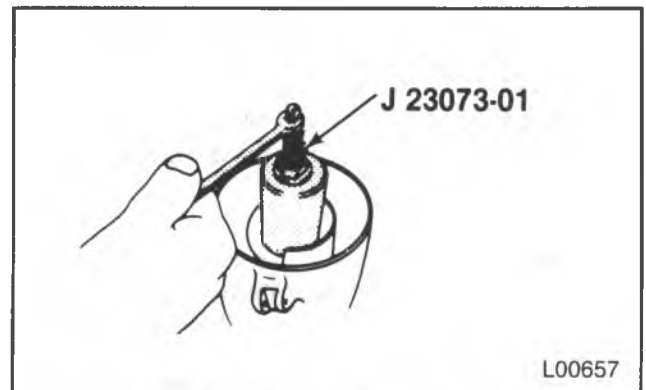
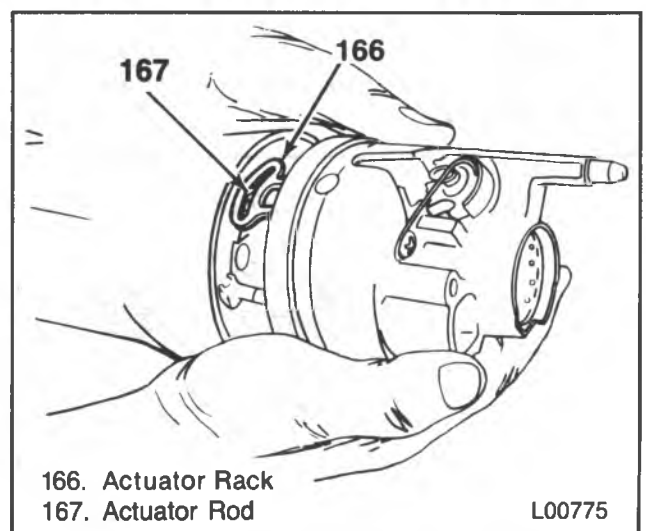

Figure 38 — Shift Tube Assembly Installation
Figure 39 — Bearing Housing Installation
12. Shift tube (194) into the lower end of the mast jacket (192).
- Place the nut on the threaded end of the tool and pull the shift tube (194) into the housing (figure 38).
13. Bearing support washer (180) and retaining ring (179). Pull the shift lever housing up far enough to compress the lock plate washer.
15. Screws (173) through the support and into the lock plate (181).
- Screws (173) to 6.8 N·m (60 in. lbs.).
- Align the lower bearing adapter (195) with the notches in the jacket (192).
16. Adapter (195) into the lower end of the jacket (192).
17. Lower bearing (196), bearing reinforcement (197) and retaining clip (198).
- Align the retaining clip (198) with the slots in the reinforcement (197), jacket (192) and adapter (195).
18. Centering spheres (169) and anti-lash spring (170) in the upper shaft (168).
19. Lower shaft (172) from the same side of the spheres that the spring ends protrude.
20. Steering shaft assembly into the shift tube (194) from the upper end. Carefully guide the shaft through the shift tube (194) and bearing.
21. Ignition switch actuator rod (167) through the shift lever housing and insert it in the slot in the bearing support.
- Extend the rack (166) downward from the bearing housing.
22. Bearing housing (159) over the steering shaft (168).
- Engage the rack (166) over the end of the actuator rod (167) (figure 39).
- With the release lever (163) installed, hold the lock shoes (152 and 153) in the disengaged position.
23. Bearing housing (159) over the steering shaft (168) until the pivot pin (156) holes line up.
24. Pivot pins (156).
- Place the bearing housing (159) in the full "up" position.
25. Tilt lever spring guide (147), spring (146) and retainer (145).
- With a suitable screwdriver, push the retainer (145) in and turn clockwise to engage it in the housing.
26. Tilt lever opening shield (144).
27. Turn signal housing (138) and retaining screws (133).